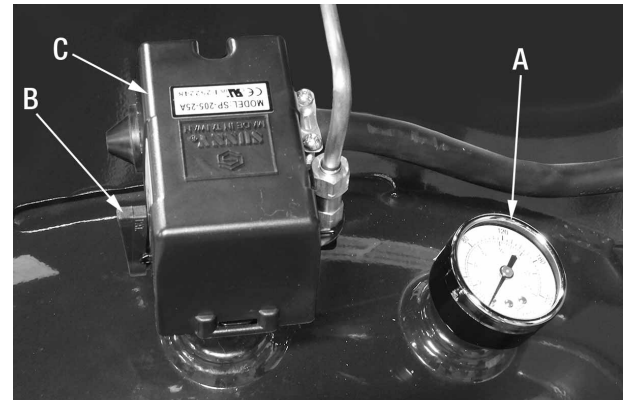

FIGURE 8
TANK PRESSURE GAUGE (A) FIG. 8. The tank pressure gauge indicates the reserve air pressure in the tank.
ON/AUTO-OFF SWITCH (B) FIG.8. Turn this switch ON to provide power to the automatic pressure switch and OFF to remove power at the end of each use.
PRESSURE SWITCH (C) FIG.8. The pressure switch automatically starts the motor when the tank pressure drops below the factory set "Cut-In" pressure. It also stops the motor when the air tank pressure reaches the factory set "Cut-Out" pressure.